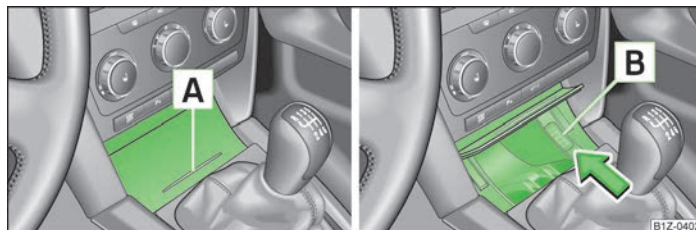

Fig. 64 Centre console: Opening the ashtray/ashtray insert
- » Press on the bottom part of the cover of the ashtray in area **A** » Fig. 64.
- » Press on the ashtray insert in the region **B** » Fig. 64 (the insert comes out) and take it out.